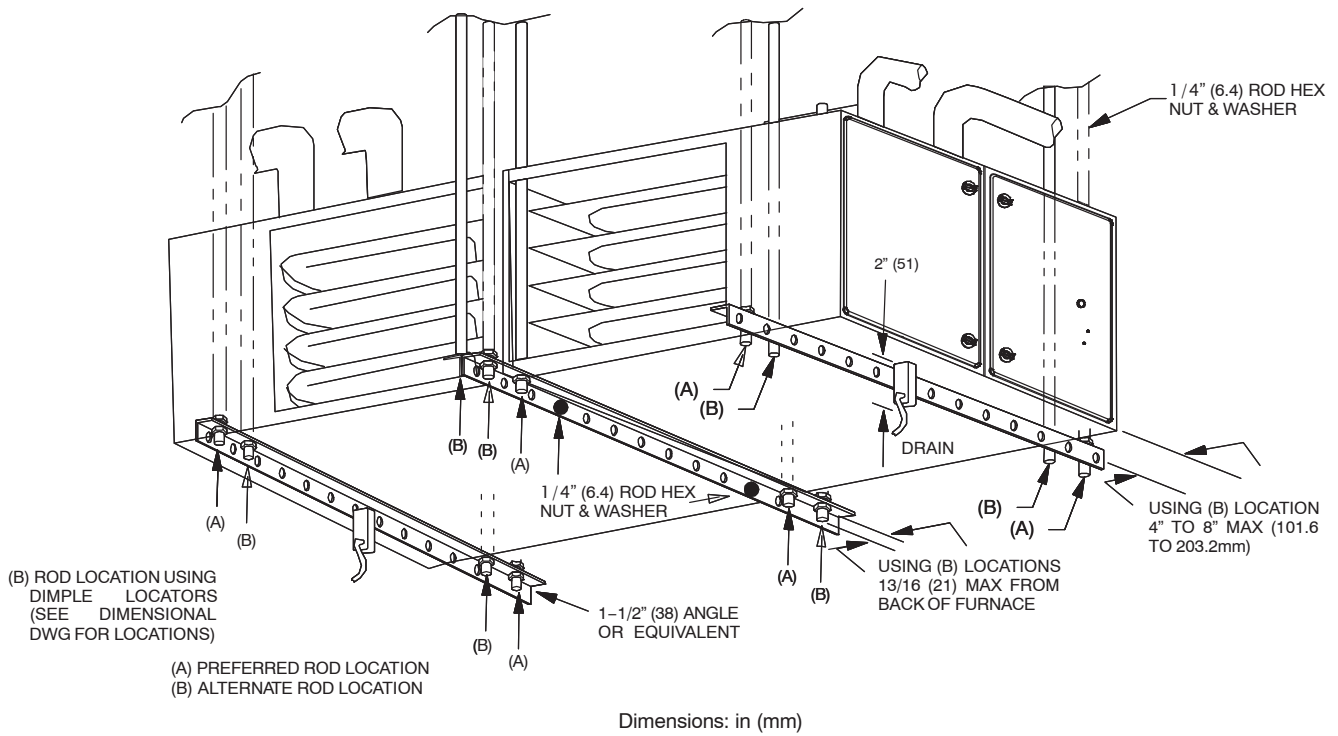

Fig. 13 – Suspended Installation of Furnace (Condensing and Non-Condensing)
1. Furnaces may be suspended using two (2) pieces of 1-1/2-in. x 1-1/2-in. x 1/4-in. (38 mm x 38 mm x 6 mm) thick cold rolled angle iron underneath each furnace
and four (4) 3/8-in. (10 mm) diameter threaded rods. Angle iron must be positioned as shown in Fig. 13.
3. Each piece of angle iron must be secured to the bottom of each furnace with at least two (2) #8 x 3/4-in. (19 mm) sheet metal screws.
4. Drill four 5/16-in. (8 mm) holes through the angle iron and through each side of the casing for the suspension rods as shown in Fig. 13.